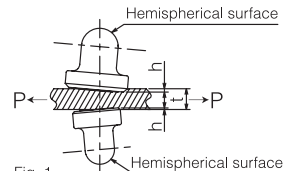
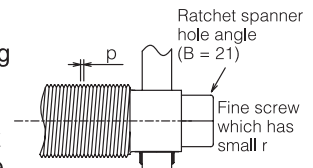
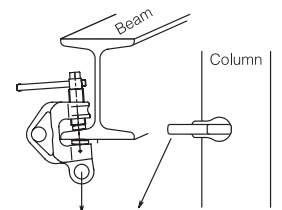

Fig. 1 Depth to which the teeth cut into the load : h
Fig. 3 Pitch : r of screw : p
Fig. 5 Example of using the clamp instead of an I-plate
- ① The load-acting points on both the screw cap and the cam are hemispherical (pivot-shaped). Consequently, if the suspension load moves by even a minute amount, the clamp will rotate in synchronism with this motion and tilt in the forward direction. This in turn will cause the teeth to cut into the suspension load with a large force. (Refer to Fig. 1.)
- ③ A fine screw (automatic tightening) is used to apply a tightening force and also prevent the screw from slackening easily. (Refer to Fig. 3.)
- ④ During hoisting work, even in the event that the handle strikes another structural object, causing the screw to work loose (to  $60^\circ$  or less), the holding force of the screw (stroke generated by the tilt of the teeth) will greatly exceed the slackening of the screw, enabling you to use the clamp with peace of mind.
- ⑤ This is the world’s lightest clamp. It can be used even by female workers.
- ⑥ A hemispherical W cam system is employed, causing the clamp to cut into the load from both sides. (Refer to Fig. 1.)
- ⑧ The head of the screw has a hex hole for a ratchet spanner ( $B = 21$ ). This enables you to install the clamp in a confined space without using the handle. (Refer to Fig. 3.)
- ⑨ You can use the clamp on a load whose grip surfaces are inclined at an angle of less than  $10^\circ$  with respect to each other ( $8^\circ$  I-beam). Refer to item 8 of “Precautions for use.”
- ⑩ You can use the clamp instead of an I-plate. (Refer to Fig. 5.)
- (1) Appearance and function. (damage to the body, operating condition of the screw, rotation and tilt of the screw cap and cam, wear and clogging of the teeth, and so on) Refer to Fig. 1 and item 2 of "Precautions for use."
- (2) Maximum work load indication and minimum working load. (This is 1/10 of the force equivalent to the maximum working load. In the case of a general clamp, it is 1/5.)
- (3) Effective sheet thickness. (Refer to Table 1.)
- (4) Use clamps that are suitable for the mass of the load to be suspended. (Refer to Table 1.)